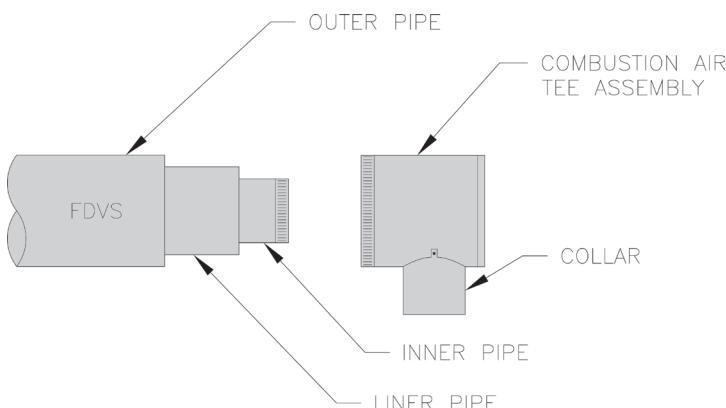

Figure 16: Combustion Air Tee Assembly Installation
1. Assemble the vent hood tee body to the vent hood outer pipe, and, rotate the tee, so air intake inlet collar is in the desired position. See Figure 16.